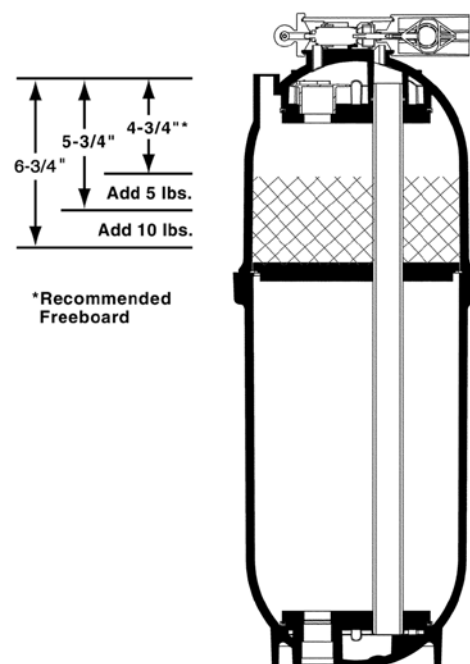

Figure 5: Max Freeboard Amount
- A. Measure the freeboard distance from the top of the fill plug to the media. See Figure 5.